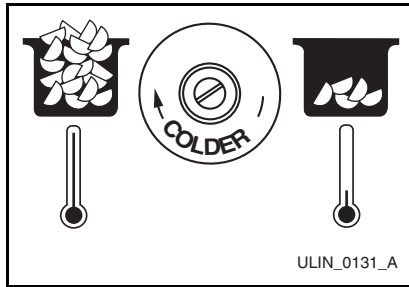

Figure 3
2. Turn the adjusting screw (**Figure 3**) using a flat tip screwdriver in a small increment clockwise for a COLDER setting (slower ice production) or counterclockwise for a WARMER setting (faster ice production).